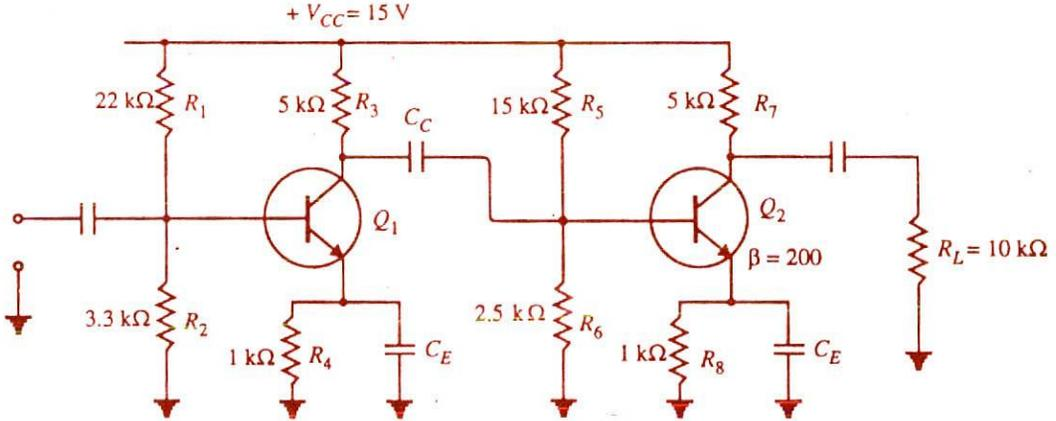

Fig. 13.12
**Example 13.14.** Fig. 13.12 shows a 2-stage RC coupled amplifier. Find the voltage gain of (i) first stage (ii) second stage and (iii) overall voltage gain.